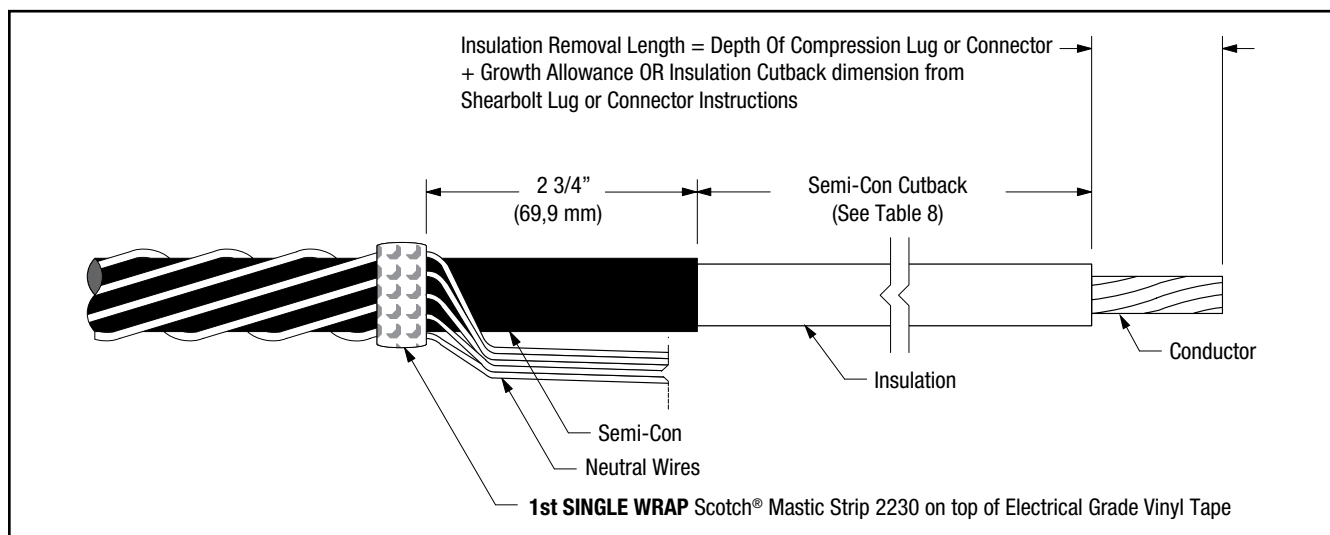

Figure 7
- 6.3 Prepare cable using dimensions shown in Figure 7. **BE SURE TO ALLOW FOR DEPTH OF TERMINAL LUG OR CONNECTOR.** If using 3M Shearbolt Lugs QL2 Series: Two Hole, or 3M Mechanical Shearbolt Connector QCI Series, proceed to Step 6.4. If using a Crimp Type (Compression) lug, measure the depth of the barrel. If using a Crimp Type (Compression) connector, measure to the barrel center stop/midpoint, and see the NOTE below in order to calculate the Insulation Removal Length. Table 9 can be used to assist in calculating the total Jacket Removal Length when using a compression lug or connector.
- 6.5 Secure neutral wires to cable with several highly stretched layers of electrical grade vinyl tape around the cable and neutral wires 2 3/4" (69,9 mm) from cut edge of cable semi-con (Figure 7).
- 6.6 Select a Scotch® Mastic Strip 2230 from kit and remove white release liners. Using light tension, apply a **SINGLE WRAP** of mastic around the cable and neutral wires 2 3/4" (69,9 mm) from cut edge of cable semi-con, directly on top of vinyl tape (Figure 7). Cut off excess.